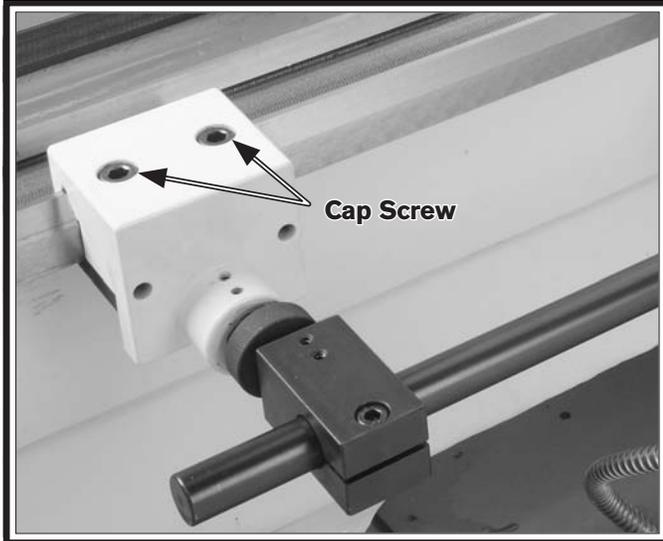

Figure 26. Deadman clamp location.
2. Use an 8mm hex wrench, and loosen both deadman clamp cap screws shown in **Figure 26**, so the deadman can slide on the way as the carriage is moved.